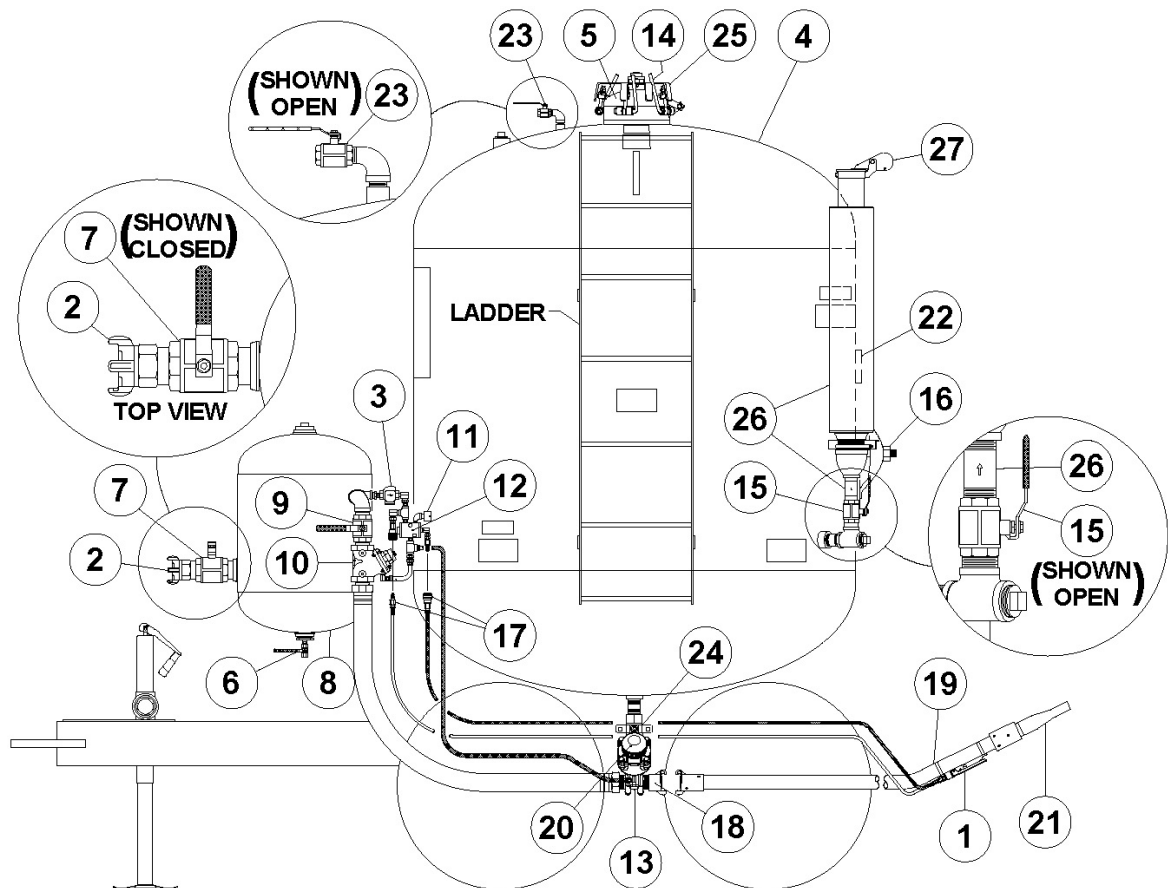

Figure 7.3 – Typical Bulk Abrasive Blaster
7.2 Beginning the Blasting Operation (See Figure 7.3)
- 7.2.3. Open the abrasive shutoff valve (#24). See Figure 7.3.
- 7.2.5. Close the blowdown ball valve (#15) at the rear of the vessel above the manway (#16) and close the pressure indication ball valve (#23) next to the closure. See Figure 7.3.
7.3 Ending the Blast Operation (See Figure 7.3)
- 7.3.1. Close the air inlet ball valve (#7). The ball valve is closed when the handle is fully turned to the position shown in Figure 7.3 (handle perpendicular to body). The handle tab will bottom against the ball valve body in the closed position.